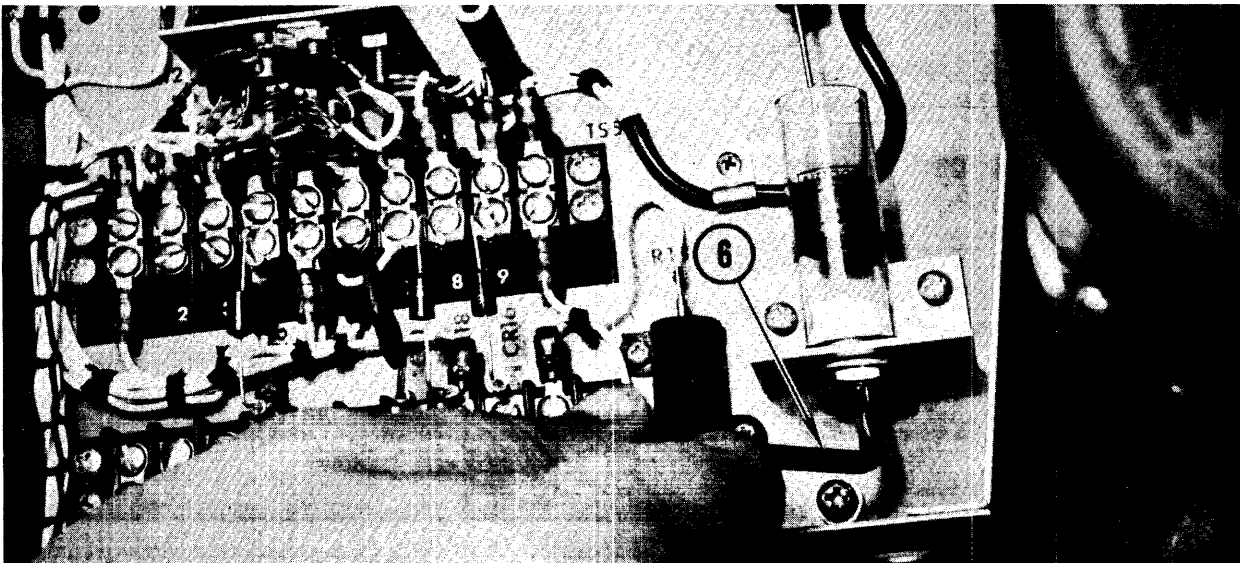

Figure 5-13.
- Step 6: See Figure 5-13. Screw in dashpot adjusting screw clockwise to bottom.